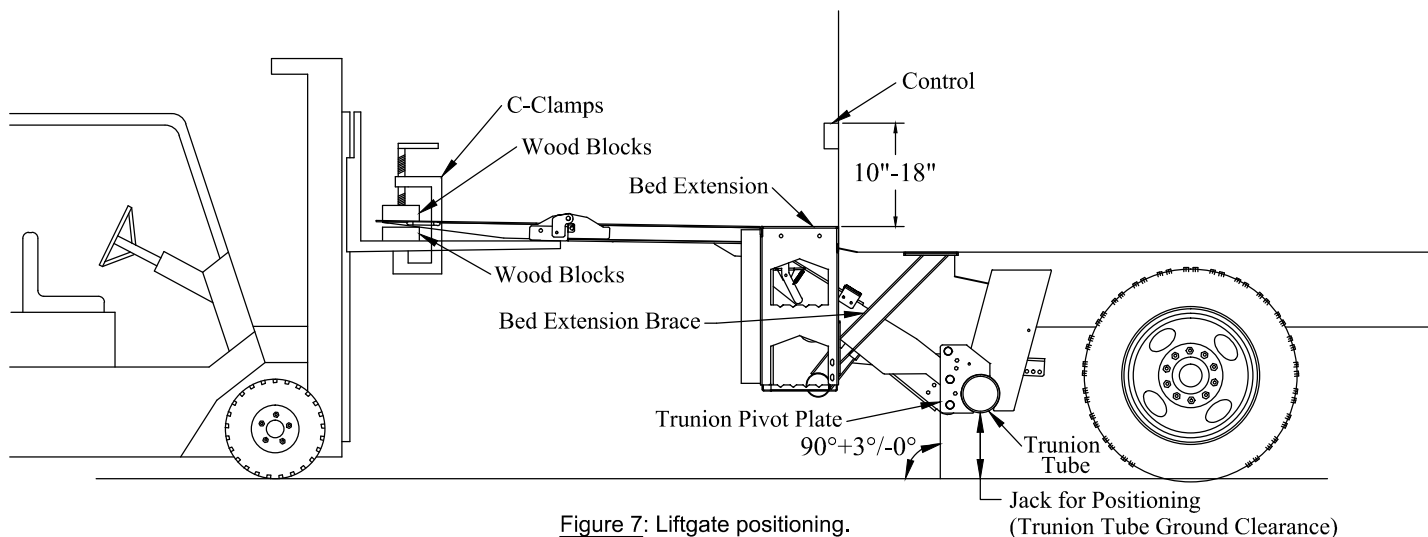

Figure 7: Liftgate positioning.
7. If using a fork lift, **Position** the lift as shown (Figure 7).
Note: The trunion pivot plates will be square with the ground or the top tilted toward the front of the truck(Figure 7).
- 14. Place** a jack under the trunion tube to aid in positioning the liftgate (Figure 7). Do not apply too much pressure with jack, it will introduce slack into the mechanism.
2. **Attach** bed extension braces to the bottom of the bed extension steps with supplied 1/2" bolts and lock nuts (Figure 7).
6. **Route** the control wire from the pump box to mounting location on the rear of the truck (Figure 7).
7. **Position** and **Attach** the control box on the rear of the truck using the supplied paper template (Figure 7).